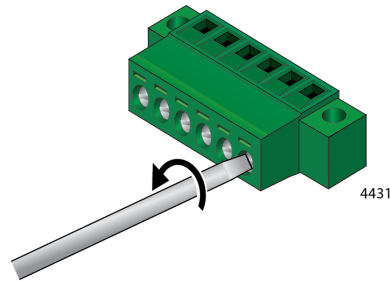

Figure 39. Loosen Power/Alarm Connector Wire Retaining Screws
- Loosen the wire retaining screws for each of the six wire connections on the power/alarm connector with a #1 screwdriver as shown in Figure 39.